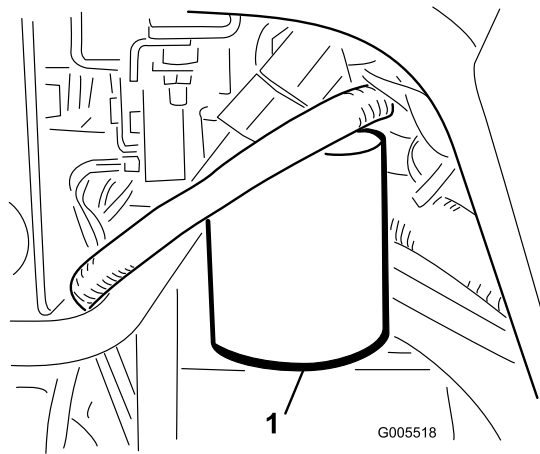

Figure 59
1. Clean the area around the filter mounting area (Figure 59). Place a drain pan under the filter and remove the filter.